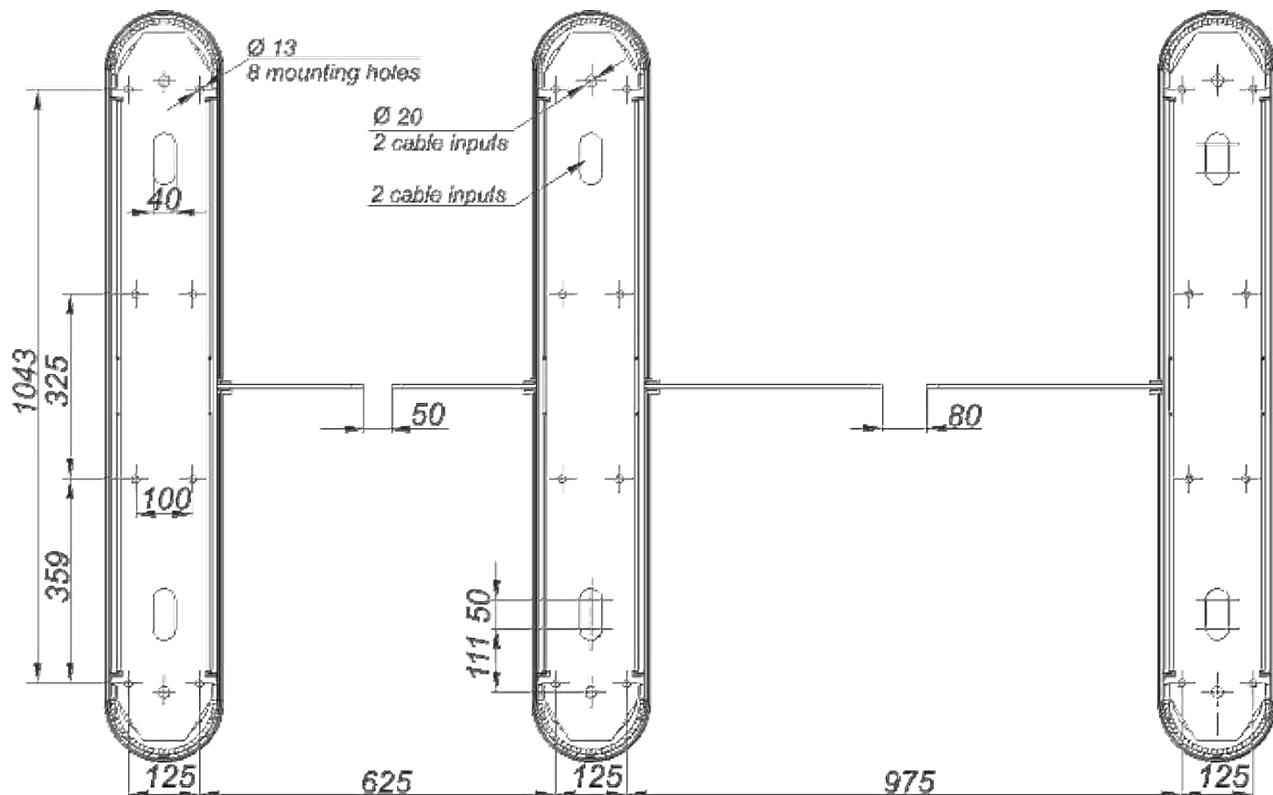

Fig. 17 – Installation dimensions of the "Sweeper-BM-1" and "Sweeper-BM-2" turnstiles set
5) The turnstile fixation holes to be marked on the area surface according to Figure 17 (for turnstiles with 550 mm and 900 mm lanes). The turnstile itself can be used as a template.
6. - Fixation holes at the turnstile bottom plate to be aligned with the prepared surface holes according to the marking in Fig.17;